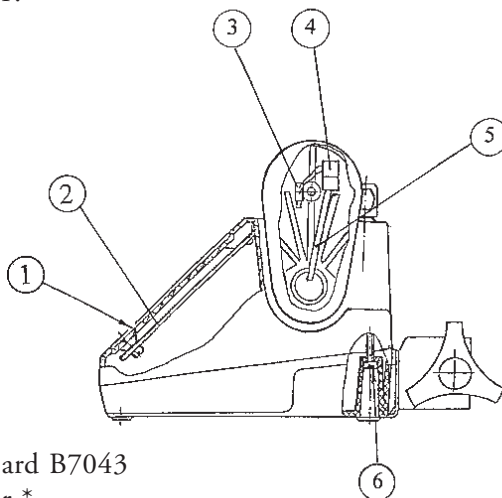

Fig.1
10.1. DISASSEMBLING THE PUMP (FIG. 1, ANNEX B)
- ◆ Disassemble the pump according to the section 10.1. Unsolder two conductors from the pre-alarm switch (8). Replace the pre-alarm switch (8) and re-solder the conductors to the same terminals. Pull insulation tubes onto the soldering places. Fasten the pre-alarm switch (8) in such a position as to be activated when the distance between the housing surface supporting finger flanges of the syringe and the syringe driver arm surface supporting thumb rest of the syringe is equal to 45 mm. Reassemble the pump in reverse order to the section 10.1.
10.7. REPLACING SYRINGE SENSOR S3 (FIG. 1)
- ◆ Disassemble the pump according to the section 10.1. Remove four screws (10). Disconnect step motor connector P1 from electronic board B7043. Disconnect syringe sensor connector P2, sensors connector P3, MFC (multi-functional connector) connector P6, syringe size sensor connector P8 and keyboard connector J1 from the electronic board B7043 and carefully take out the electronic board B7043. Install the new electronic board B7043, reconnect all connectors in reverse order. Reinstall four screws (10). Reassemble the pump in reverse order to the section 10.1.
10.9. REPLACING KEYBOARD (FIG. 1)
- ◆ Disassemble the pump according to the section 10.1. Detach the old keyboard (1). Disconnect keyboard (1) connector from the electronic board B7043 (2). Glue the new keyboard (1) taking openings for the display and for LEDs as a reference. Glue from the left to the right pressing the keyboard (1) with a piece of soft clothes. Reconnect keyboard (1) connector to the electronic board B7043 (2). Reassemble the pump in reverse order to the section 10.1.